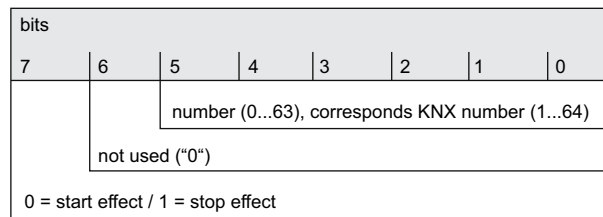

Figure 54: Structure of the object value for the effect extension
The structure of the telegram value for the effect extension is orientated to the KNX DPT 18.001, which is also used in the scene extension (figure 54).
- i** It should be noted that the object value of the extension input is always "1" less than the configured KNX number, in accordance with KNX DPT 18.001 (figure 54).